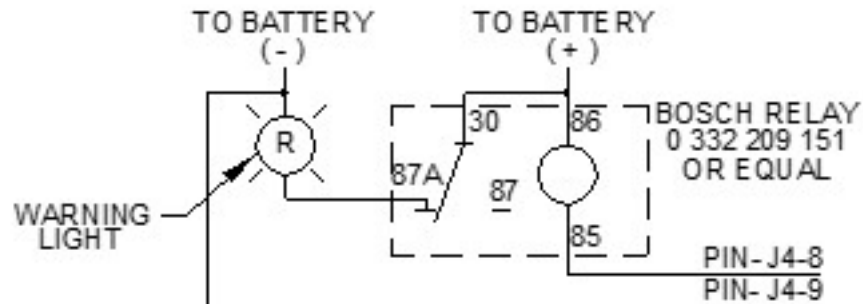

Figure 5-8 Example Vehicle Safety Interconnect Circuit
This relay output is from a bi-stable (latching) relay whose contacts either open or close (switch selectable) when the mast is active (not stowed). Its state is not affected by whether or not there is power to the mast. This contact is capable of carrying up to two (2) amperes and is available on pins J4-8 and 9 (data cable supplied by the installer). Figure 5-8 shows an example vehicle safety interconnect circuit. It can be used in conjunction with a customer-supplied relay to drive a flashing warning light. Other arrangements are possible.